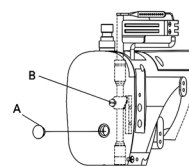

图14 (Fig.14)
2. 打开上方侧盖橡胶塞(A), 并松开螺钉(B), 上下调整机针高度后在固定螺钉。(图14)
机针高度调整后, 必须确定每一根针是通过针板孔中央。(图14)。
2. The position of needle bar can be adjusted by [1] removing rubber cap (A) and loosening nut (B) ,[2] moving needle bar up and down ,to proper position and [3] tightening screw (B) ,and insert in cap (A). (Fig.14)